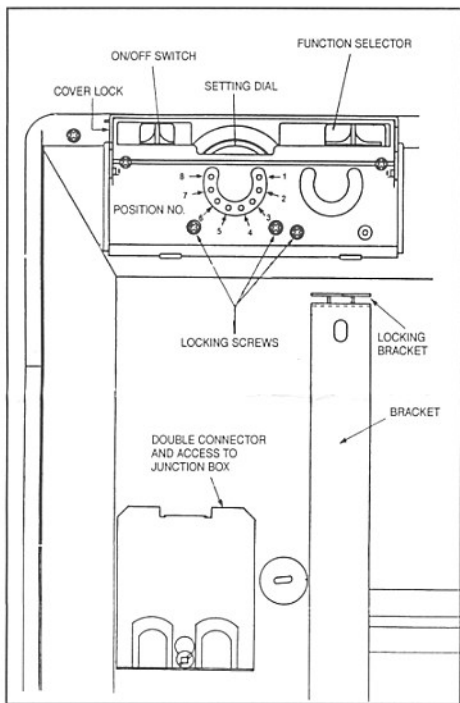

Figure 2
- 1- Free mounting bracket by pressing and pulling both locking brackets (Figure 2).
Access to the junction box is reached by an access trap situated at the rear of the CONVECTAIR (Figure 2).
First, detach the unit from the wall brackets. Behind the unit control dial, three screws are provided to lock the protection cover and the setting dial. To simplify this operation, you may number the screw positions as shown on figure 2.
- Maximum setting — turn the setting dial to frost-free (8) and insert a screw in the position corresponding to the previous number of the selected number for maximum; ex. to lock the maximum at 9, insert the screw at no. 8 (Figure 2).
- Lower setting — turn the temperature dial to the new maximum position and insert a screw in the position corresponding to two numbers preceding the desired minimum; ex. to lock the minimum at 5, insert screw in no. 3 (Figure 2).
- 3- To lock the cover, insert a screw in the upper corner of the cover in the provided space (Figure 2).